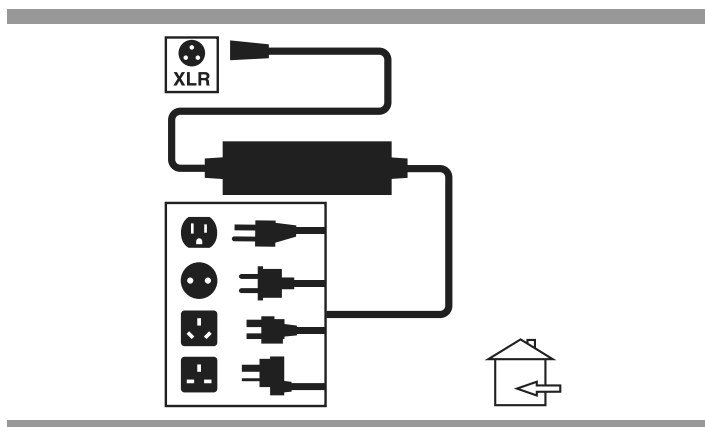

Figure 9. Battery Charger
3. Plug the off-board charger into the off-board charger/programming socket on the controller. **See figure 9.**